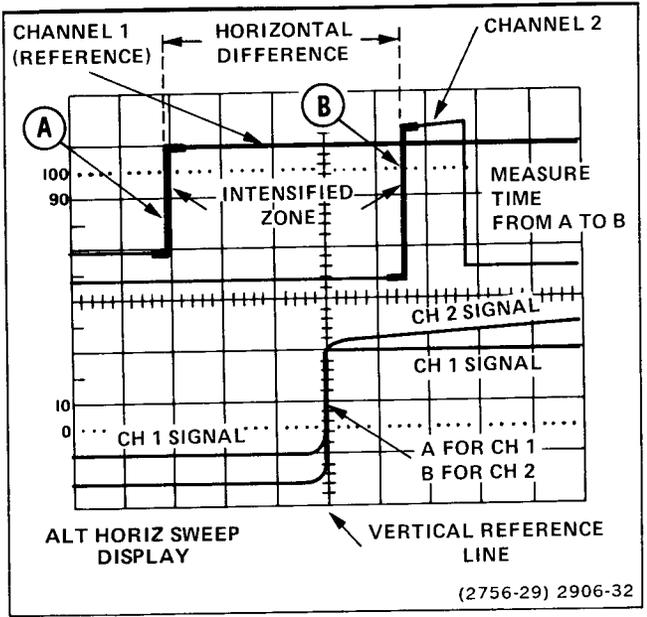

Figure 47. Time difference between two time-related pulses, ALT HORIZ DISPLAY.
7. Rotate the DELAY TIME POSITION control to move the intensified zone to the rising edge of the reference pulse (on the A trace) and then fine adjust until the rising portion (on the B trace) is centered at any convenient vertical graticule line (see Figure 47, point A).
10. Rotate the DELAY TIME POSITION control to set the the rising portion of the Channel 2 pulse (in the B trace) to the same vertical reference point as the Channel 1 pulse (see Figure 47, point B). Observe the A trace to position the intensified zone to the correct pulse (if more than one pulse is displayed). Do not change the setting of the Horizontal POSITION control.